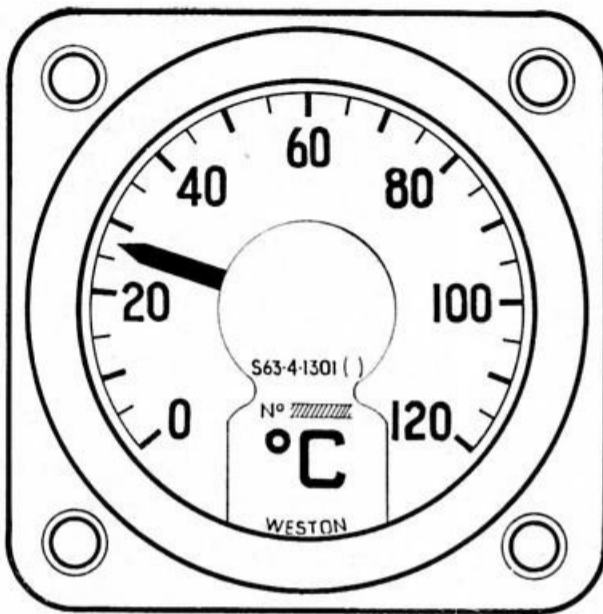

Fig. 1. Indicator, Type S63.4.1301
1. The temperature indicator, Type S63.4.1301 (fig. 1) is calibrated in degrees C from 0 to 120, the pointer deflection being controlled by the variation of resistance with temperature of an externally connected platinum law resistance thermometer element. The indicator movement is designed as a ratiometer. The indicator incorporates a pointer return unit which positions the pointer below the 0 degrees C cardinal when the indicator is unenergized.